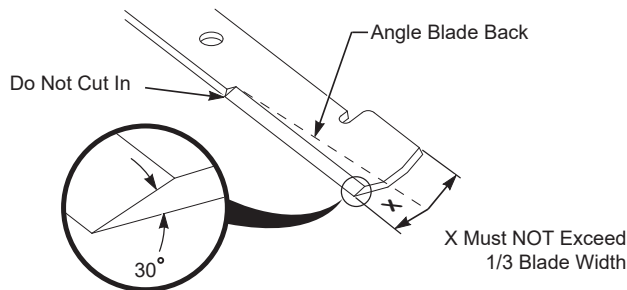

Figure 7-4. Blade Sharpening
DO NOT sharpen the blades beyond 1/3 of the width of the blade. See Figure 7-4.
1. Sharpen the cutting edge at the same bevel as the original. See Figure 7-4. Sharpen only the top of the cutting edge to maintain sharpness.